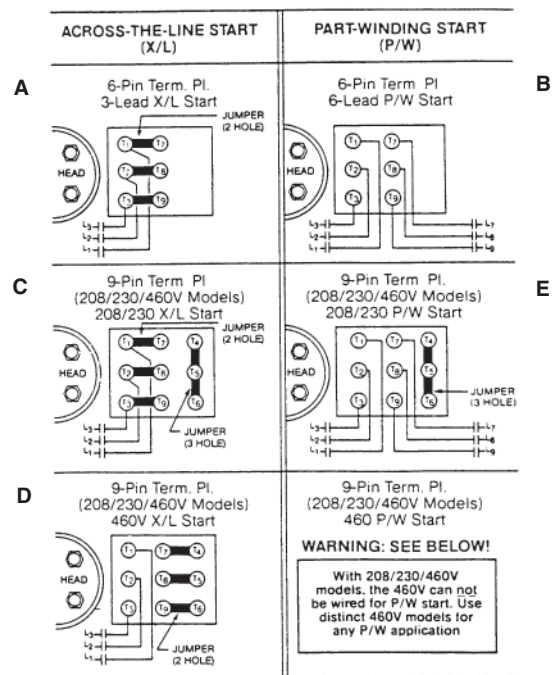

FIGURE 1
**CAUTION: Do not charge oil through the suction line or through the compressor suction access fittings.** See Figures 1 & 2 for the recommended oil charging port. Adding oil into the suction side of the compressor can cause damage to the suction/discharge valves, pistons, and/or connecting rods.
Consult the wiring diagram located inside the compressor terminal box cover and Fig. 1 shown below for wiring connection locations.
The (3) jumper bars supplied with the compressors are required for 3-Lead XL start only. Jumpers are assembled directly on terminal studs connecting T1 & T7, T2 & T8 and T3 & T9 as shown in (Fig. 1-A).
- D. 6-Lead Across-the-Line (X/L) or Part Winding (P/W) start (Fig. 1-B):
- E. For 9-pin terminals for 208/230V-3-60 or 200V-3-50 "Across-the-Line" start applications, connect the jumper bars as follows (Fig. 1-C):
1. Install (3) 2-hole copper jumper bars connecting terminals 1 to 7, 2 to 6, and 3 to 9.
7. Install (9) terminal nuts (included in this kit) on terminal studs to secure jumper bar/line connections. Tighten terminal nuts to 18 lb-ft (24 n-m) maximum.
- F. For 9-pin terminals for 208/230V-3-60 or 200V-3-50 "Part Winding" start applications, connect the jumper bars as follows (Fig. 1-D):
6. Install (9) terminal nuts (included in this kit) on terminal studs to secure jumper bar/line connections. Tighten terminal nuts to 18 lb-ft (24 n-m) maximum.
- G. For 9-pin terminals for 460V-3-60 or 400V-3-50 "Across-the-Line" start applications, connect the jumper bars as follows (Fig. 1-E):
1. Install (3) 2-hole copper jumper bars connecting terminals 7 to 4, 8 to 5, and 9 to 6.
3. Install (9) terminal nuts (included in this kit) on terminal studs to secure jumper bar/line connections. Tighten terminal nuts to 18 lb-ft (24 n-m) maximum.